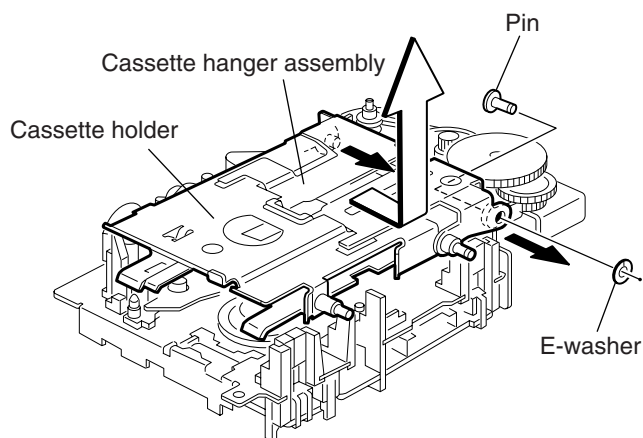

Fig.5
■ Removing the cassette hanger assembly / cassette holder (See Fig.5)
- Prior to performing the following procedure, remove the side bracket (L) and (R).